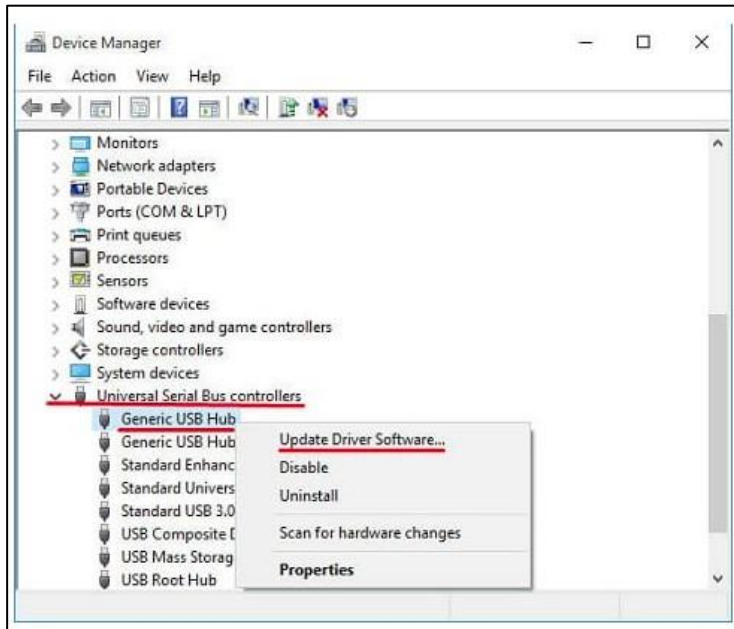

Figure 3: Device Manager USB Hub Driver Update
- Right-click USB Root Hub and select Properties. Figure 3: Device Manager USB Hub Driver UpdateFigure 4: Device Manager USB Hub Driver Update.